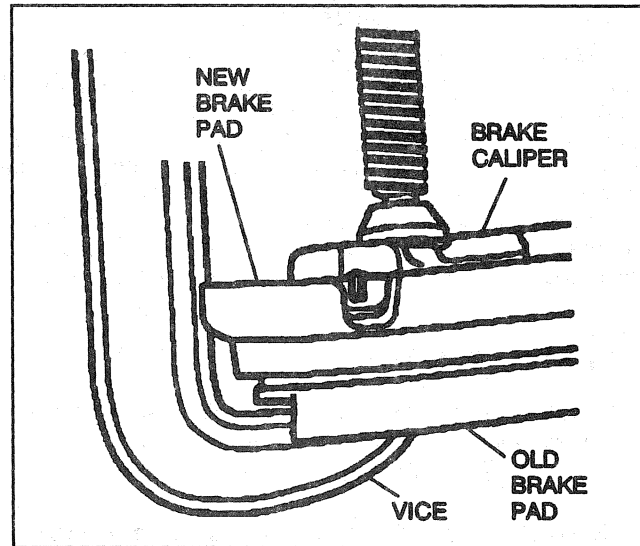

Figure 11—Installing Outer Pad
4. Install the outer brake pad onto the caliper (Figure 11).